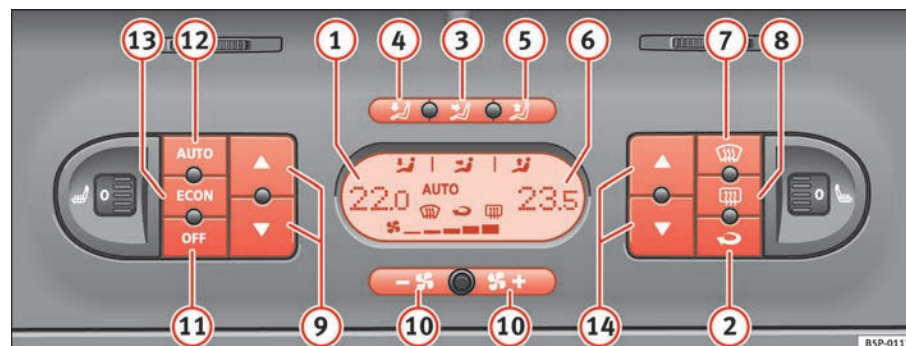

Fig. 131 On the dash panel: 2C Climatronic controls
- To enter manual mode, press one of the buttons ⇒ fig. 131 ③ to
⑤, **ECON** or press the air flow control ⑩. The symbol **AUTO** will disappear from the display. ►
- Press the button  ⇒ page 157, fig. 131  to switch air recirculation mode on or off. It is switched on if the following symbol appears in the display .